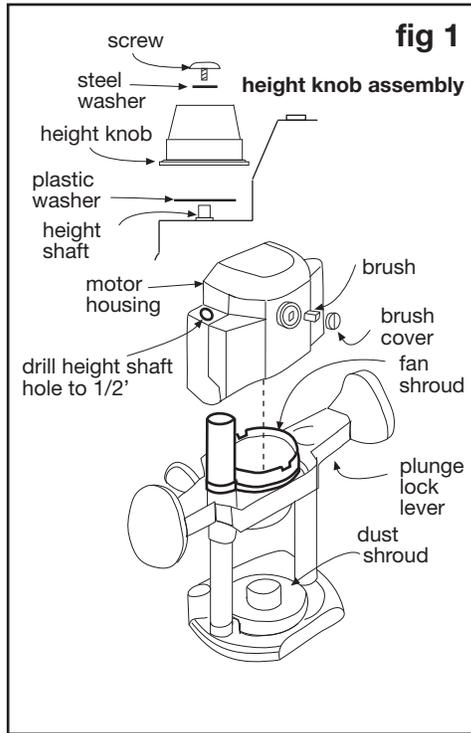

fig 1
1. Remove height knob assembly (fig 1). Remove both brush covers (fig 1) remove brushes one at a time, labeling the top and side of router removed from on each brush.
4. Lay top housing on bench. Drill height shaft hole to 1/2" or 12.8 mm using standard drill bit (fig 1). Select #19 short drive nut #18 drive nut washer #40 housing bushing. Drop #40 housing bushing, threads up onto #1 mainshaft. Using mainshaft as installation tool only, feed mainshaft from bottom into the height shaft hole just drilled (fig 5). Drop the
- 1. Removing dust cover:** Using (fig 1) place #29 speed wrench over #31 dust cover, lift speed-wrench to remove dust cover. Leave dust cover on wrench while making height adjustments.
Using fig 1 support router upside down on bench and place locating pin into bottom of #1 mainshaft head. Secure subbase to router base gently tightening screws. Using a hammer gently tap the subbase over the pin. Remove subbase and drill hole on center punch mark using the Router Raizer template instructions.